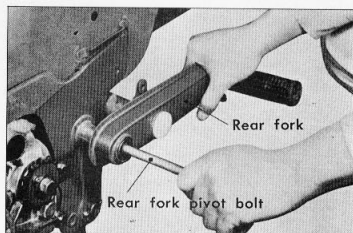

Figure 4-40. Removing rear fork
- (1) Remove the rear wheel in accordance with section 4.51a.
- (2) Remove the drive chain upper half, lower half and final drive flange in accordance with section 4.8a.
- (3) Remove the 10mm nut fixing the rear cushion at the lower end.
- (4) Remove the rear fork pivot bolt by loosening the rear fork pivot nut, then the rear fork can be removed from the frame. (Fig. 4-40)